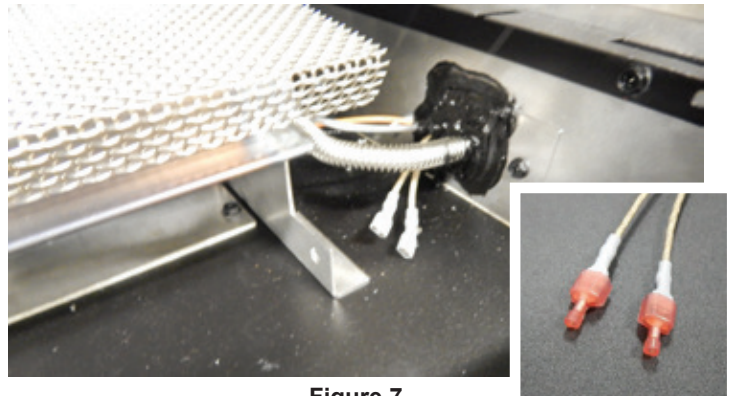

Figure 7
10. To install the Light kit assembly, first locate the two stubbed in tan wires near the gas line entry point to the right side of the firebox. See Figure 7. Remove two terminal protectors. Show in Figure 7 inset. Discard protectors.